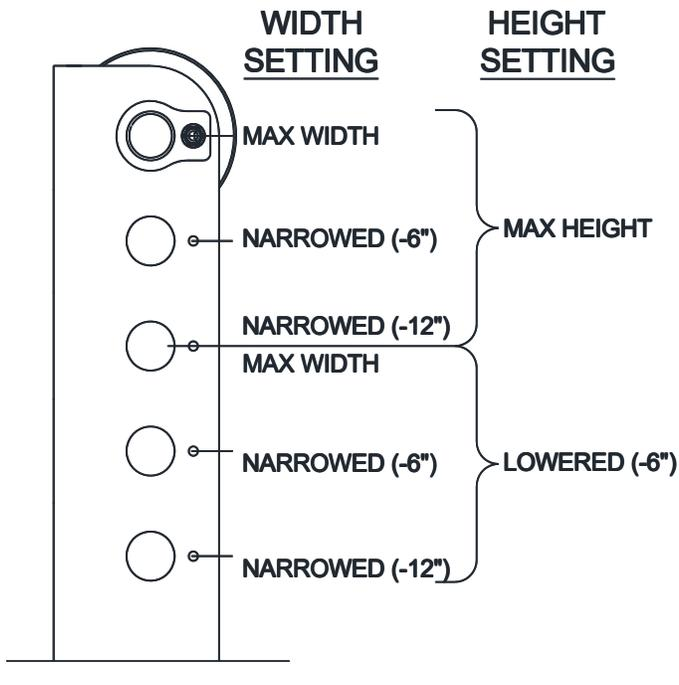

Fig. 3 – Sheave Position in Lower Bracket
- Determine the sheave location on the lower bracket based on the overall height and width of the lift at its chosen configuration. Use the General Specifications table from **page 2** and **Fig. 3** below.